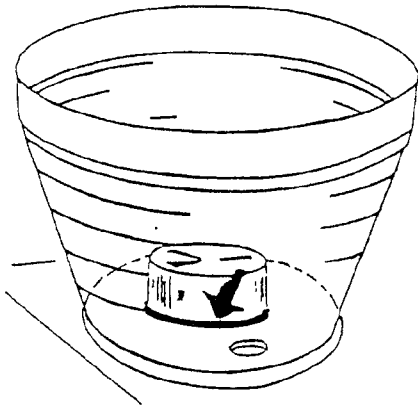

Figure 7
2. Be sure the gasket has been assembled properly. Before removing the bowl, wait 10 minutes after shutting off the refrigeration system to allow time for the ice beneath the bowl gasket to melt. Check gasket for tears or cuts in rubber as they cause leaks. (See Fig. 7)